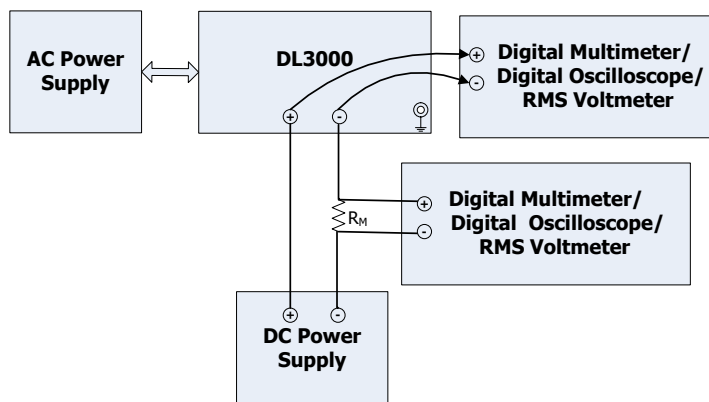

Figure 2-3 CR Test Connection
"Recommended Test Devices" according to the connection method in Figure 2-3. During the test process, please set the AC voltage according to the selected voltage in "AC Selector" on the rear panel of the electronic load.
1. Power off DL3031A. Connect DL3031A, AC power supply, DC power supply, a current sampling resistor (with a resistance R_M 0.01 Ω), and a digital multimeter according to Figure 2-3 (Pay attention to the connection method for the current sampling resistor, the channel input terminals of DL3031A, and the digital multimeter). Connect the USB DEVICE interface on the rear panel of the electronic load to the PC via the USB cable.